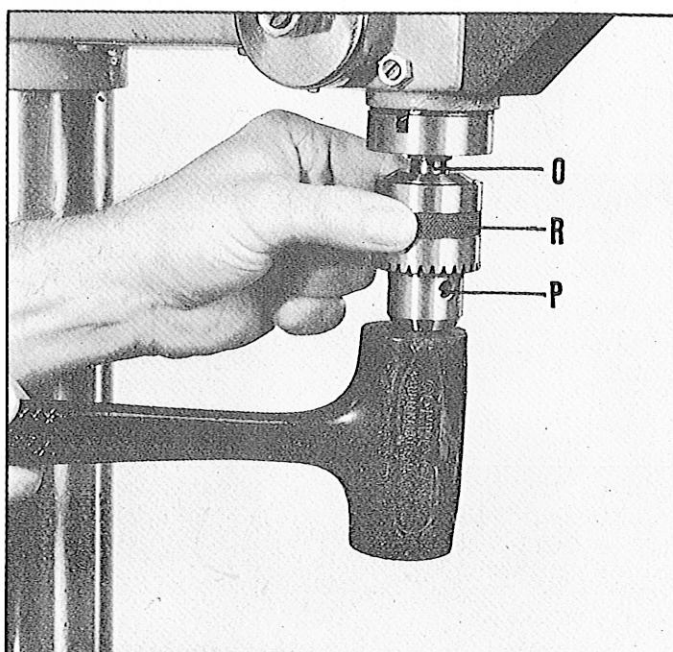

Fig 11
11. Open the chuck jaws as wide as possible by turning chuck sleeve (R) Fig. 11.
12. Holding chuck (P) Fig. 11, carefully drive the chuck onto the spindle (O) with a block of wood and conventional hammer, or a mallet as shown. This will seat the chuck (P) properly on the spindle (O). IMPORTANT: To avoid damage to the chuck, do not drive the chuck directly onto the spindle with a metal hammer.